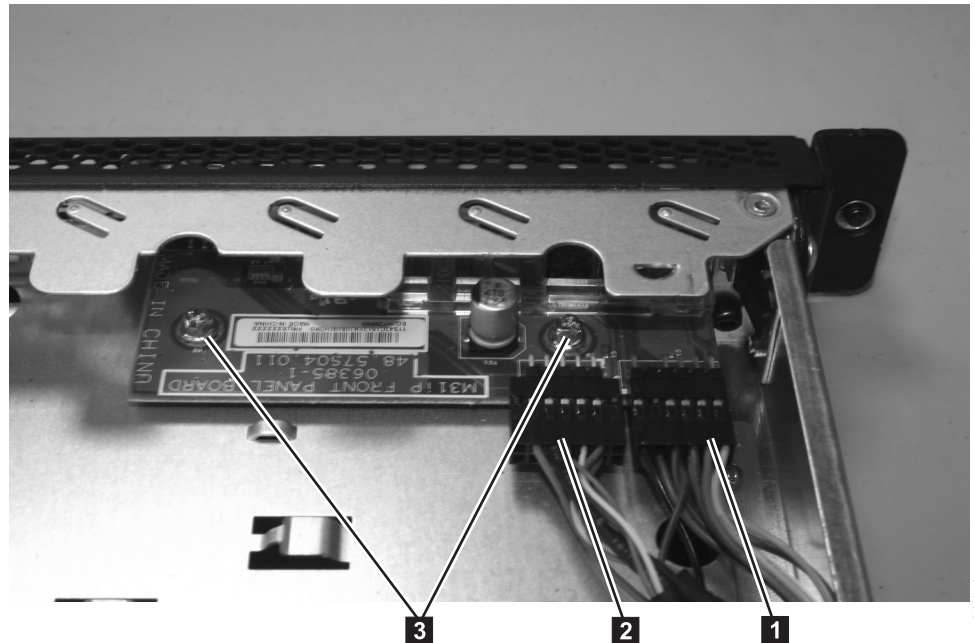

Figure 150. SAN Volume Controller 2145-8A4 operator-information panel
5. Remove the screws (**3** in Figure 150) that secure the operator-information panel to the CD/DVD bay housing.
7. Disconnect the light-panel cable **1** and the USB cable **2** from the operator-information panel board, shown in Figure 150.